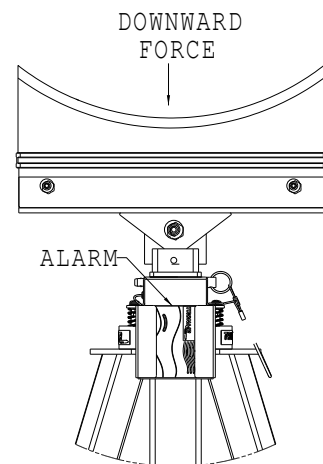

FIGURE 4
2. Test alarm by slowly applying a force evenly distributed across the top of the cradle. The cradle head will lower and engage a limit switch. A loud pulsating alarm will then sound when the force reaches between 100 to 150 lbs (45.36 to 68.04 kg). If alarm does not sound, refer to the Troubleshooting section. Reference Figure 4.